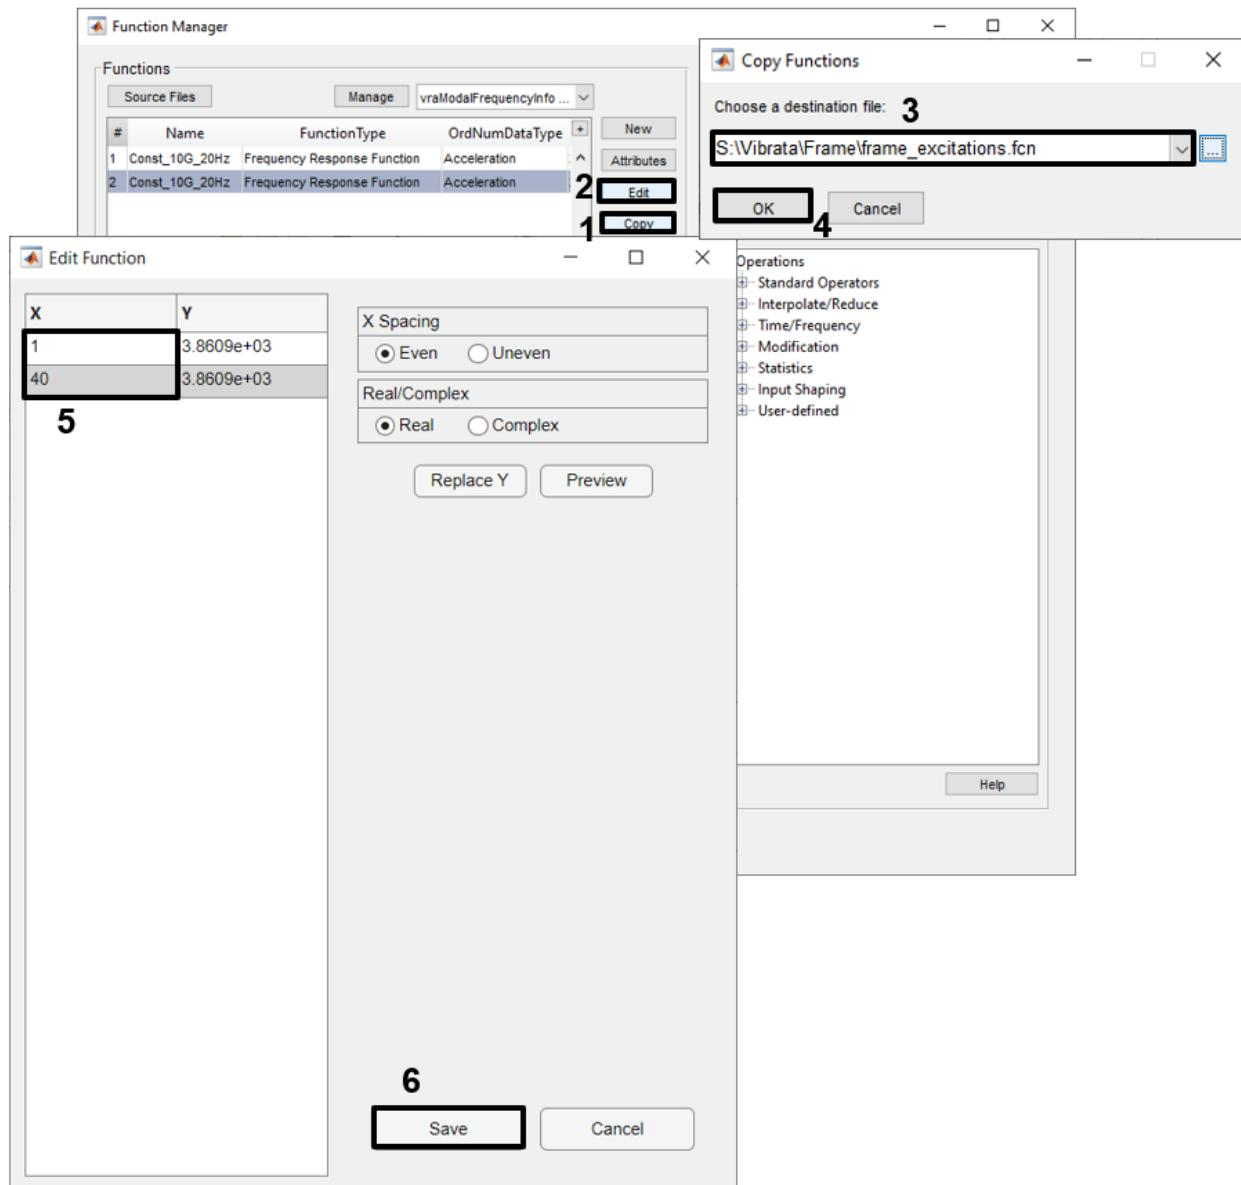

Figure 4-28. Change the copied function to have a range from 1 to 40 Hz.
b. Select the original function and click **Copy**. Store the new function to a new function file in the *frame* folder; call it “*frame_exitations.fcn*.” Select the new function and click the **Edit** button. On the *Edit Function* dialog, change the second X-value from 30 to 40 and click **Save** (Figure 4-28).